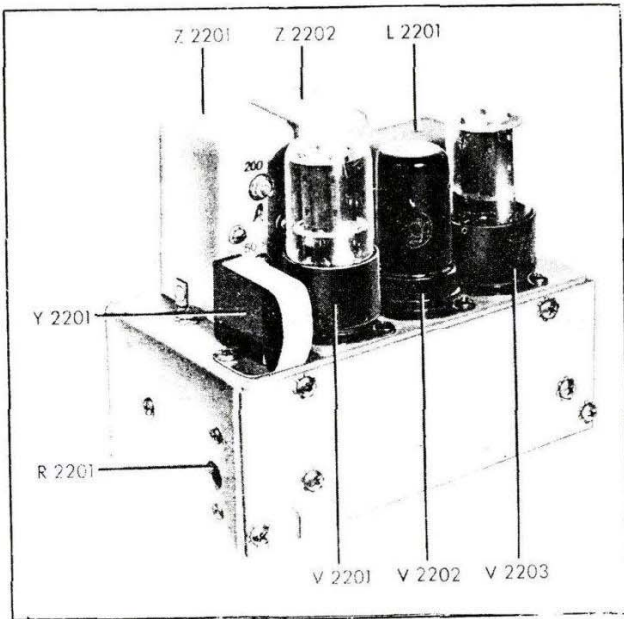

Figure 5-10. MCW-CFI Unit — Top View
(1) Extend the length of wire and twist it to form a "twisted-pair." Leave a loop at the far end of the lead so that the loop can be placed over a tube on the CFI unit.
(2) Place loop of wire over tube V2201 on CFI unit.
(3) Connect the output of a stable local 200 Kc oscillator to the horizontal deflecting plates of the oscilloscope. Local 200 Kc oscillator must have been checked recently against a U.S. Bureau of Standards transmission to insure frequency accuracy.
(4) Turn on oscilloscope.
(5) Insert a small "jeweler's" type screw driver in the slot of inductor Z2201A tuning slug adjustment screw (see fig. 5-10) adjacent to which is stamped number "200." Rotate this screw and observe reading of vacuum tube voltmeter. As 200 Kc crystal oscillator circuit approaches resonance, the meter reading will increase. It will be noted that the tuning is very broad after the meter has reached its peak reading. Final adjustment of the tuning slug position is now made by observing pattern on oscilloscope screen.
(6) Continue to adjust tuning slug in inductor Z2201A until pattern on oscilloscope forms a staple ellipse or circular shape. When this occurs, the frequency of the 200 Kc crystal oscillator in the CFI unit is identically the same as the frequency of the local oscillator which was previously set to 200 Kc and ac-
(1) Connect a pair of earphones to SIDETONE jack on transmitter.
(2) Insert a small "jeweler's" type screw driver in the slot of inductor Z2201A tuning slug adjustment screw (see fig. 5-10) adjacent to which is stamped the number "200." Rotate the screw and observe the reading of the vacuum tube voltmeter. As the crystal oscillator circuit approaches resonance, the meter reading will increase. It will be noted that the tuning is very "broad" and that tuning slug for inductor Z2201A may be adjusted over a considerable range without appreciably changing the peak reading of the meter. Note the number of turns of the tuning slug that can be made without changing peak meter reading. By continuing to turn the tuning slug half this number of turns after the meter just approaches peak reading, it will be possible to set the tuning slug to the approximate center of the broad resonance peak. This adjustment must be made to set the tuning slug correctly.
(3) The peak reading obtained on the meter in the previous operation indicates maximum crystal activity and proper operation of the crystal oscillator circuit. If a loud squeaking rush noise is heard in the headphones as soon as the crystal oscillator functions, adjust tuning slug (stamped "150") in inductor Z2202A until this noise disappears.
(4) Quiet operation, arrived at by the foregoing checks and adjustments, indicates correct operation and calibration beat signals may be searched for by rotating Control "B."
(5) Tune the h-f oscillator by rotating control "B" until two approximately equal level loud signals are heard.
(6) Compare the zero beat dial settings of the two selected beat points with the calibration table check points to determine if the interval between the points is 100 Kc. (oscillator frequency is doubled on range 1 causing 50 Kc interval of CFI output to be recorded at 100 Kc).
(7) If the interval is correct and the dial readings correspond reasonably (within 25 dial divisions) with the calibration table, tune Z2201B (farthest from crystal) marked "50," tune Z2202B (nearest crystal) marked "50," and tune Z2202A (marked "150") for maximum sidetone output. Recheck tuning in the same order. If interval is less than 100 Kc, see paragraph 6c (10), this section. If interval is greater than 100 Kc, see paragraph 6c(11), this section.
(8) Recheck adjustment of Z2201A (marked "200") to determine the setting which is the midpoint of the range in which the vacuum tube voltmeter reading is a maximum.
(9) Turn the transmitter on and off several times, noting whether the crystal oscillates positively (vacuum tube voltmeter rises to peak reading) as soon as the transmitter is turned on. Detune Z2201A (marked "200") slightly to improve crystal starting if necessary.
(10) If less than a 100 Kc interval is obtained, rotate mixer tank Z2202B adjustment screw clockwise
(1) Remove the transmitter cabinet cover, the autotune cover plate, and the wrap-around section of the right-hand end of the transmitter cabinet.
(2) Remove the snap button from the side of the chassis of the MCW-CFI unit. (See fig. 5-10).
(3) Tune the transmitter into a phantom antenna (Antenna A-58 if available) on 2400 Kc. Load the power amplifier to exactly 100 on the P.A. PLATE meter in the transmitter when using CW transmission.
(4) Place the EMISSION selector switch on the MCW position, and, while holding the TEST switch closed, adjust resistor R2201 until the plate meter reads 190.